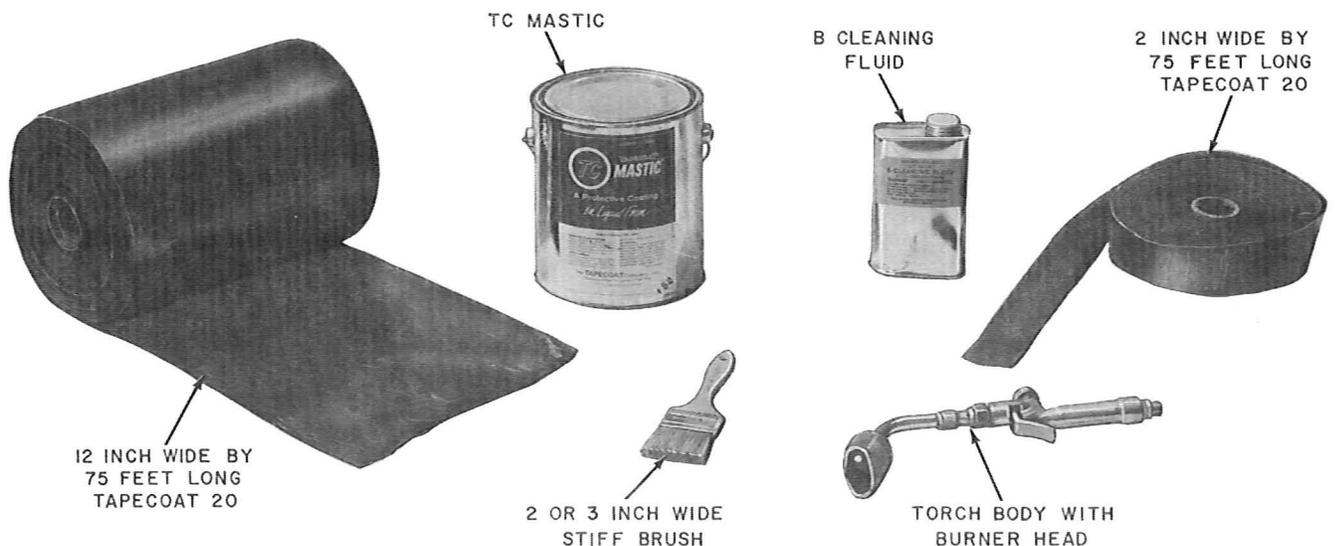

Fig. 4—Materials and Tools
3.01 The following materials and tools are required for applying corrosion protection to the B Steel Sleeve (Fig. 4).